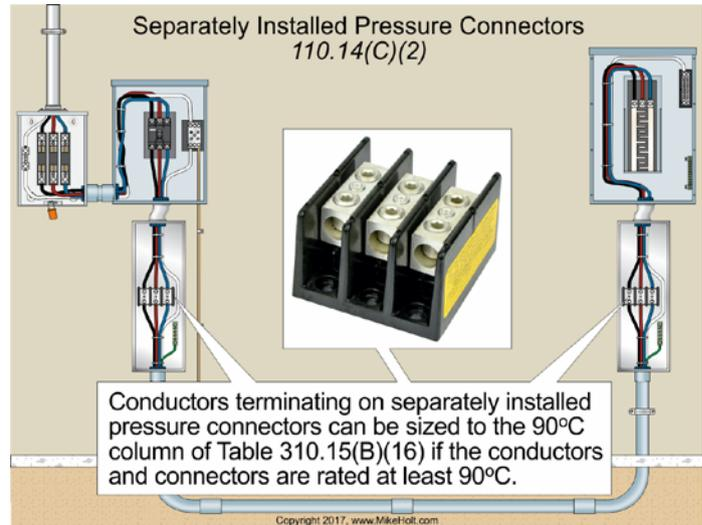

Figure 110-21
**(2) Separate Connector Provisions.** Conductors can be sized to the 90°C column of Table 310.15(B)(16) if the conductors and pressure connectors are rated at least 90°C. Figure 110-21
**(D) Torque.** Where tightening torque values are indicated on equipment or installation instructions, a calibrated torque tool must be used to achieve the indicated torque value, unless the equipment manufacturer provides an alternative method of achieving the required torque.